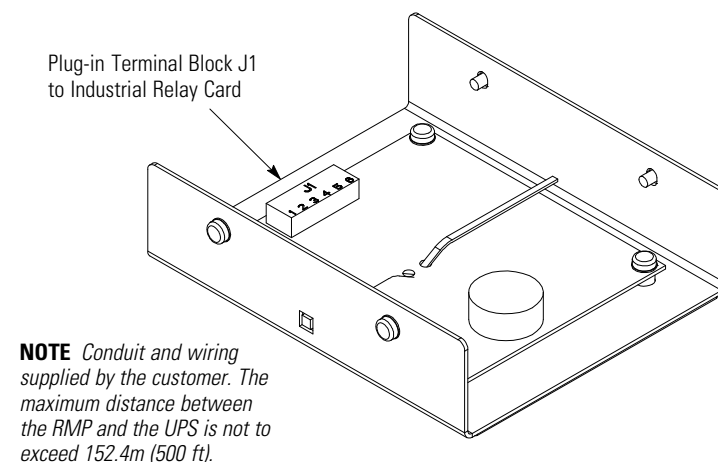
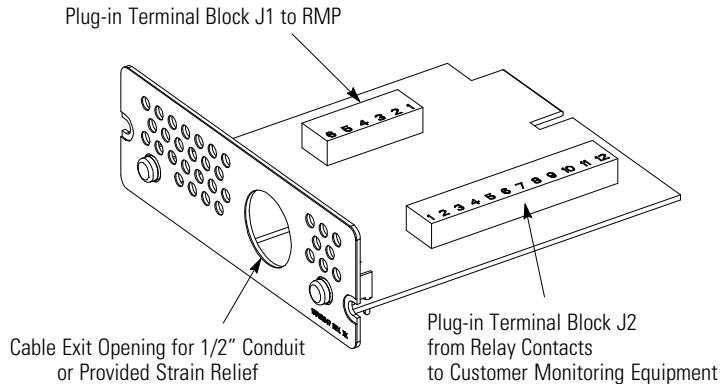

Figure 55. RMP Top Internal View
Figure 56. Industrial Relay Card
3. Install wiring from the RMP to the IRC using the cable listed in Table 5 and the provided strain relief bushings in the cable exit openings in the IRC (see Figure 56) and the RMP.
4. Connect the wiring between the RMP and the IRC plug-in terminal blocks using terminations shown in Table 5. See Figure 55 and Figure 56 for plug-in terminal block locations.
The IRC uses normally-open or normally-closed dry relay contacts to indicate the UPS status as listed in Table 6. Figure 56 shows an IRC.
2. Install wiring from the IRC to the monitoring equipment using 1/2" conduit through the cable exit opening in the IRC (see Figure 56).
3. Connect wiring between the IRC and the monitoring equipment using terminations shown in Table 6. See Figure 56 for plug-in terminal block locations.